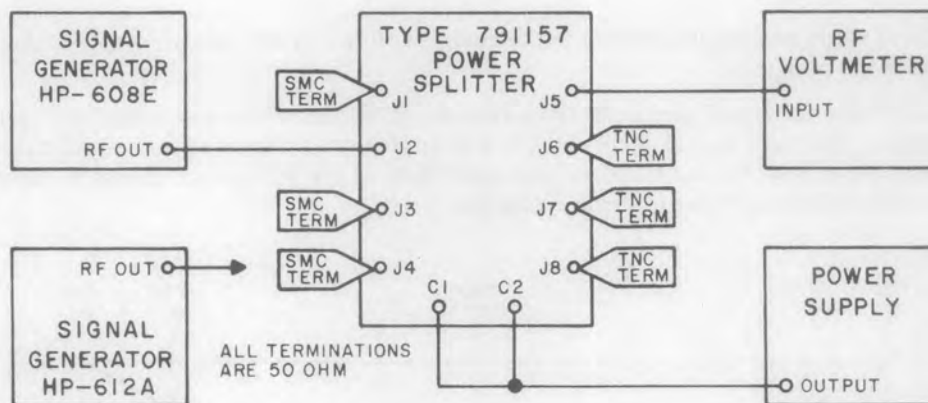

Figure 7-1. Test Setup, Power Splitter Test and Alignment
- b. Add the following step: (9) Connect an rf voltmeter to A4J3 and tune from 490 to 1000 mc. The level should be in the range of 225 to 445 mV. If it is not, set the dial to 490 mc and reposition R1 and C11 for 225 mV output. Then recheck across the band for levels in the range of 225 to 445 mV.
7.5.6 Type 791157 Power Splitter, Performance Test and Alignment. - Steps in this sequence include both performance tests and alignment instructions for the power splitter. To make adjustments, the power splitter assembly must be removed from the main chassis. The test setup shown in Figure 7-1 assumes the assembly has been removed from the main chassis for these adjustments. However, if the power splitter assembly is being tested in the main chassis, connections to J1 through J4 must be made by removing their cables from the tuners and coupling into the cable ends. Also, with the assembly in the main chassis, the power supply is not required. To remove the assembly from the main chassis, first disconnect the cables to J1 through J4 and unsolder the wire to C1-C2. Then remove the four rear panel screws holding the assembly in place and lift it out. With the assembly out of the chassis, the test setup as it is shown in Figure 7-1 should be used. Terminations and adapters are available from the following manufacturers:
- (1) Connect the equipment as shown in Figure 7-1, or use the alternate setup described in paragraph 7.5.6.
- (2) Set the HP-608E to 321.4 mc at a level of -2 dBm.
- (3) Connect the power supply for a positive 24 volts output or place the RANGE MC switch in the 30-60 position if the assembly is being tested within the unit.
- (4) The rf voltmeter should indicate -12 dBm  $\pm 0.5$  dB. If it does not, perform the following:
- (5) Slowly tune the signal generator to 81.4 mc while observing the rf voltmeter. At no time should the meter indication be less than -13 dBm.
- (6) Connect the rf voltmeter to J6 and terminate J5.
- (7) Slowly tune the signal generator to 321.4 mc while observing the rf voltmeter. It should remain in the range of 10 to 30 mV.
- (8) Connect the signal generator to J1 and terminate J2.
- (9) Set the signal generator to 81.4 mc with the output level still at -2 dBm.